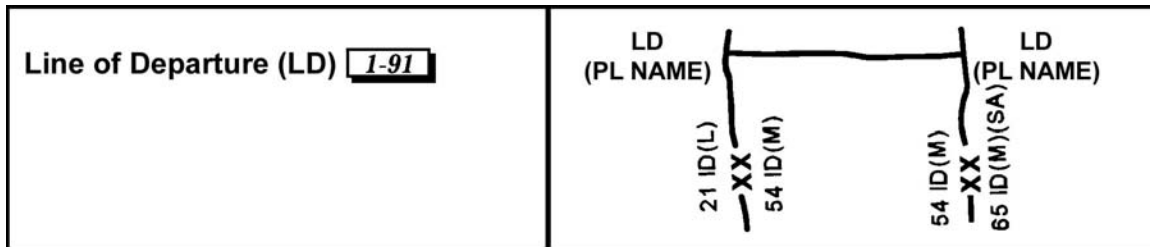

Figure 19. Line of departure.
- (1) Line of departure (LD). The LD is a control measure to coordinate the advance of an attacking unit (Figure 19). The LD should be--